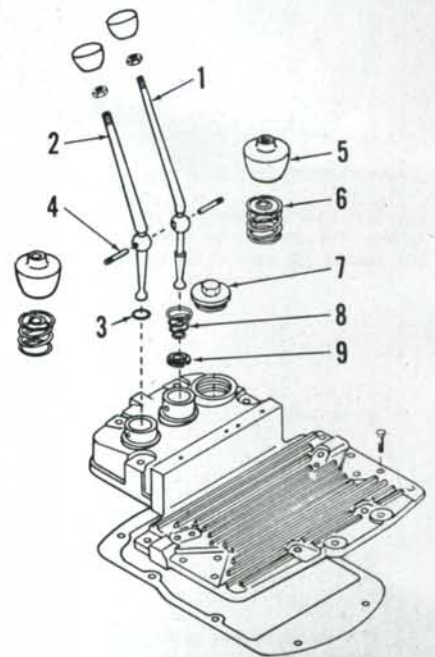

Fig. 180—Exploded view of transmission top cover and shift levers typical of all models.
**158. REMOVE AND REINSTALL.** To remove transmission top (shift) cover, first remove instrument console lower panels. Shift transmission to neutral, then remove gear shift lever retaining pins (4—Fig. 180) and lift shift levers from cover. Remove cap screws attaching steering support and instrument console to shift cover. Remove cap screws securing shift cover to transmission housing. Work the shift cover from beneath console being careful not to drop detent springs into transmission housing.